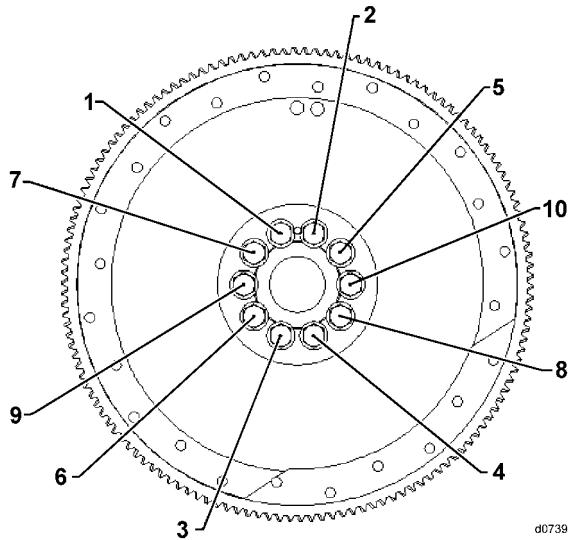

Figure 43 Typical Flexplate and Flywheel Torque Sequence
50. Snug all bolts in sequence, as shown in Figure 43, to 1 to 7 N·m (12 to 60 lbf·in).
51. Torque all bolts in sequence as shown in Figure 43, to 85 to 103 N·m (63 to 76 lbf·ft).
57. Snug all bolts in sequence as shown in Figure 43 (See Figure 43, page 25) to 1 to 7 N·m (12 to 60 lbf-in).
58. Torque all bolts in sequence as shown in Figure 43 (See Figure 43, page 25) to 85 to 103 N·m (63 to 76 lbf·ft).